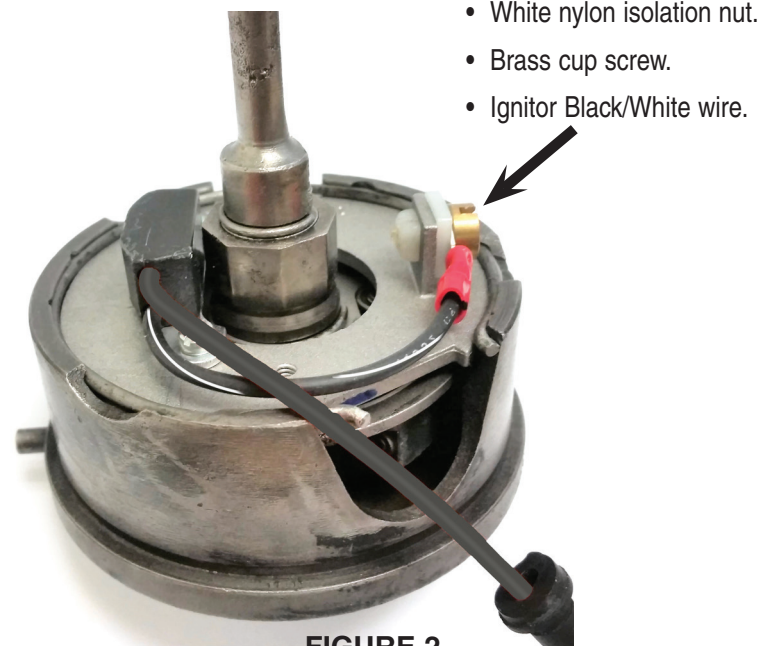

FIGURE 2
- Install the white nylon isolation nut into the square coil contact bracket on the Ignitor adapter plate. SEE FIGURE 2.